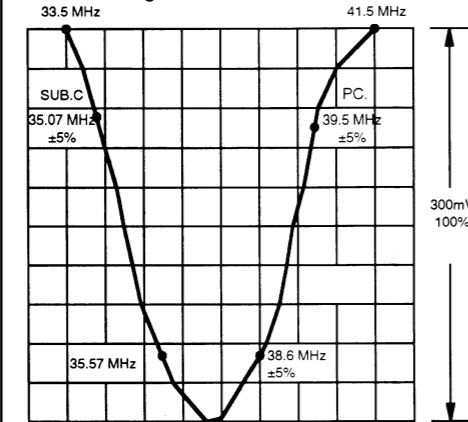

Fig. 4
A. PREPARATION STEP (SEE FIG.4)
3. Adjust the ferrete core in the tuner until the marker 39.5MHz has maximum amplitude and 35.07MHz has a difference of 1 division as shown in Fig.4.